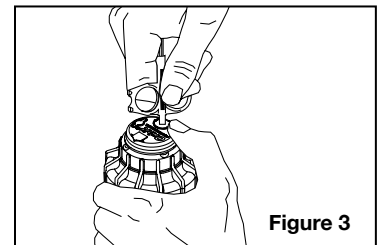

Figure 3
- 4 Use a wire nut to connect the remaining wire on the first valve to one of the colored wires from the sprinkler wire. Repeat this step until all valves in the manifold are connected (Figure 3)
Turn the top of the head all the way to the left until it stops and then all the way to the right. This is the starting point for the rotation (Figure 1). Insert the plastic end of the key into the pattern adjustment hole (Figure 2). Turn clockwise to increase rotation; counterclockwise to decrease rotation. Each full turn increases/decreases rotation by 90° (Figure 3).